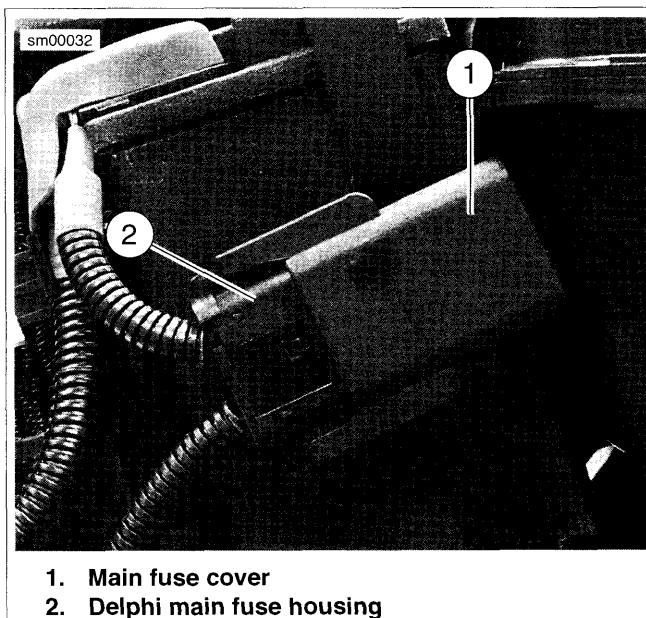

Figure A-12. Delphi Connector Housing: Main Fuse
1. See Figure A-12. Depress latches on main fuse cover (1) and then slide cover off of connector (2).